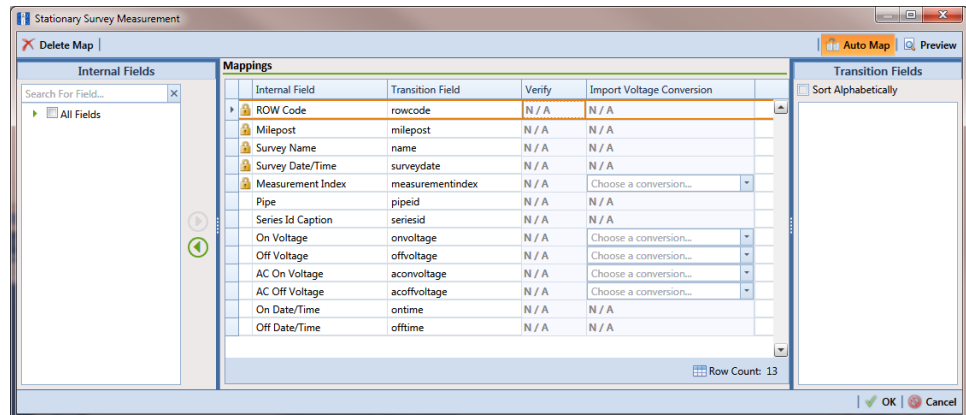

Figure 10-21. Stationary Survey Measurement
- a Click  **Edit** in the *Maps* group box to open the *Stationary Survey Measurement* dialog box (Figure 10-21).